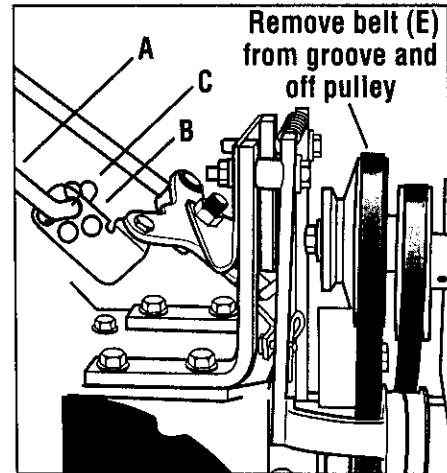

Figure 4-10: Disconnect Forward Clutch Rod and move forward drive belt out of groove in engine forward drive pulley.
2. Disconnect the Forward Clutch Rod (A, Figure 4-10) from the swivel plate (B) by removing the innermost hairpin cotter (C).
5. From the right side of the unit, slip the forward drive belt (E, Figure 4-10) out of the pulley groove closest to the engine (this forward drive pulley has two grooves) by pushing it off (away from the engine) with your left hand while pulling the engine starter rope with your right hand. (The forward drive belt should have been located in the pulley groove closest to the engine; not in the groove furthest from the engine.)